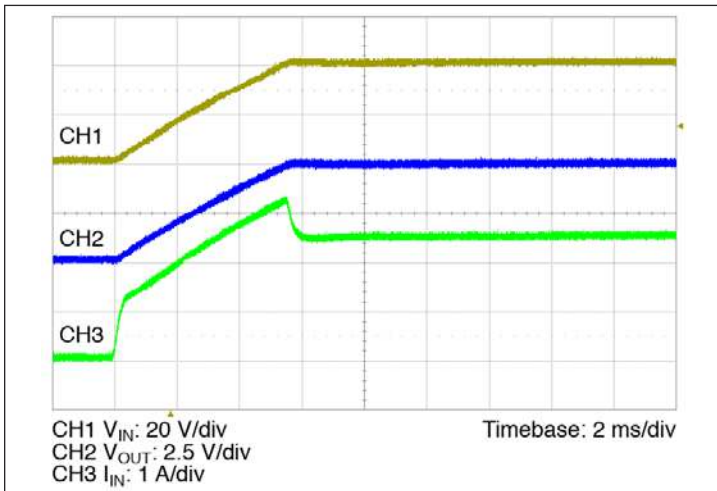

Figure 13 — Start up from application of  $V_{IN}$ ; VC pre-applied  $C_{OUT} = 2000 \mu\text{F}$
- Normal Operation (VC applied prior to VIN): In this case the controller is active prior to ramping the input. When the input voltage is applied, the VTM output voltage will track the input (See Figure 13). The inrush current is determined by the input voltage rate of rise and output capacitance. If the VC voltage is removed prior to the input reaching 26 V, the VTM module may shut down.